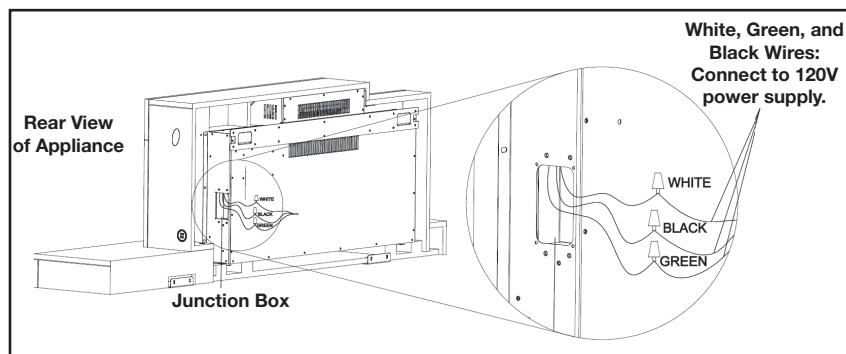

Fig. 2
- Remove the wire connectors from the power cord (**Fig. 2**). The power cord may be discarded.